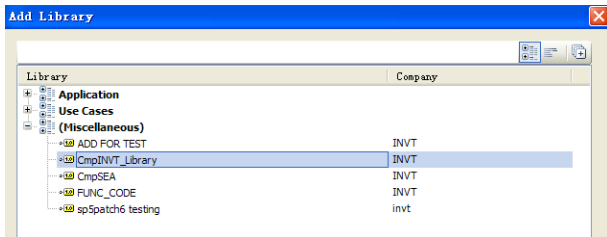

Figure 4-5
4. Choose the function library **CmpINVT\_Library** and click **OK**, as shown in Figure 4-5.